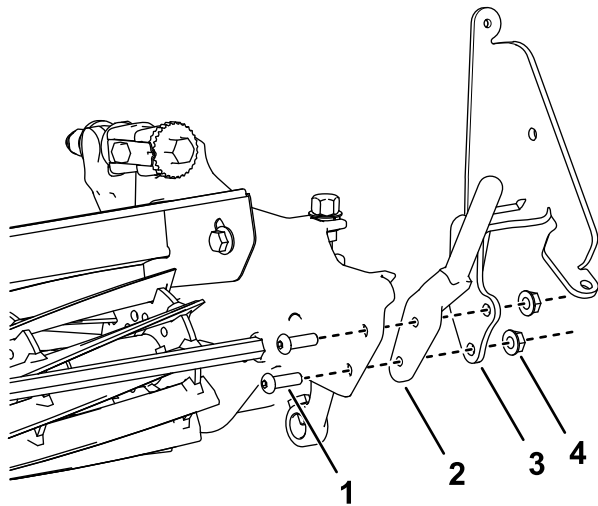

Figure 1
3. Install a brush bracket and basket mounting rod removed in step 2 to each side of the cutting unit using 2 hex-socket-head screws (5/16 x 1 inch) and 2 locknuts (5/16 inch) as shown in Figure 1.